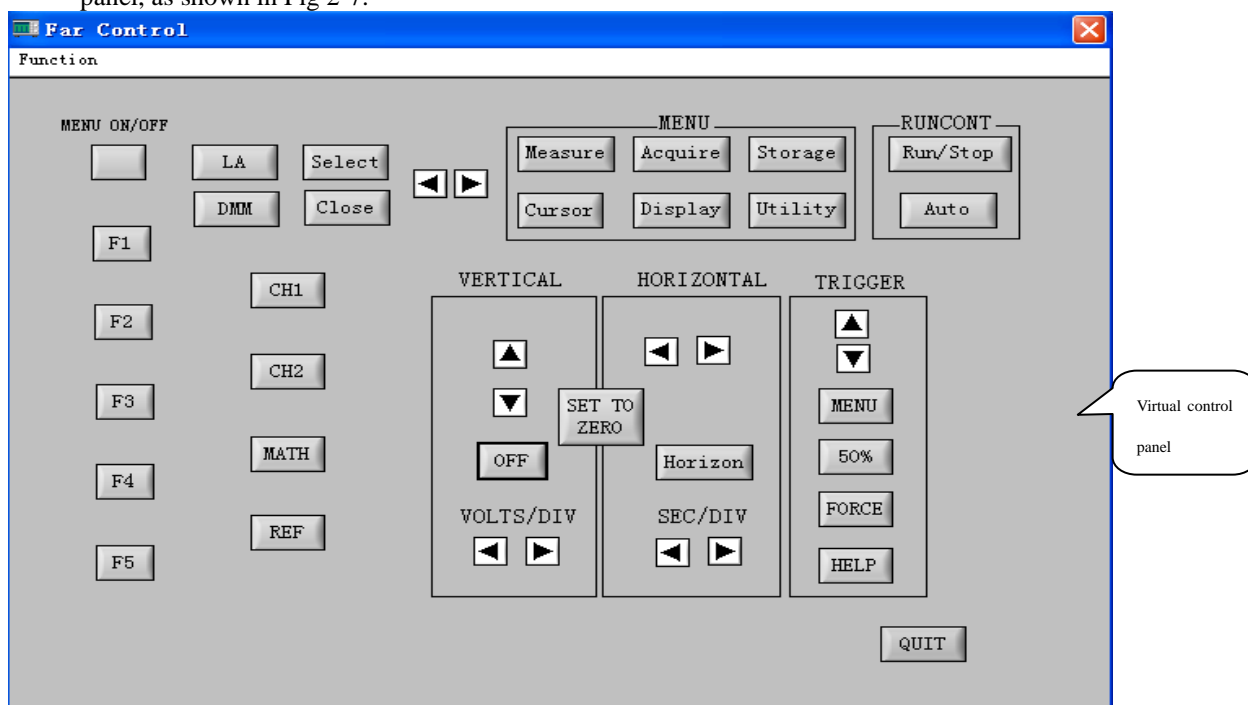

Fig 2-7
- ◆ **Far control :** You can operate the digital storage oscilloscope on remote control with the communication and control software. In the remote control mode, the computer screen will display a virtual instrument control panel which is fundamentally the same as the oscilloscope control panel, as shown in Fig 2-7.